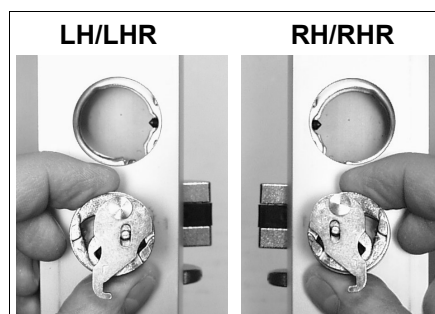
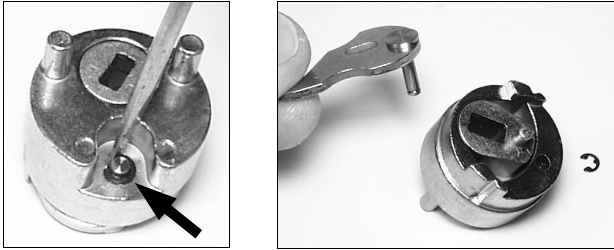

Fig 2a: Correct orientation for Interface cylinder and hook cam (LH and RH)
Fig 2b: Remove the retaining ring with a small screwdriver...
- 2a. **Setting Hand of Interface Cylinder/Adapter** Refer to Fig. 2a to determine if changing the hook cam lever is necessary. If changing the hook cam lever is necessary, refer to Fig. 2b (on next page).